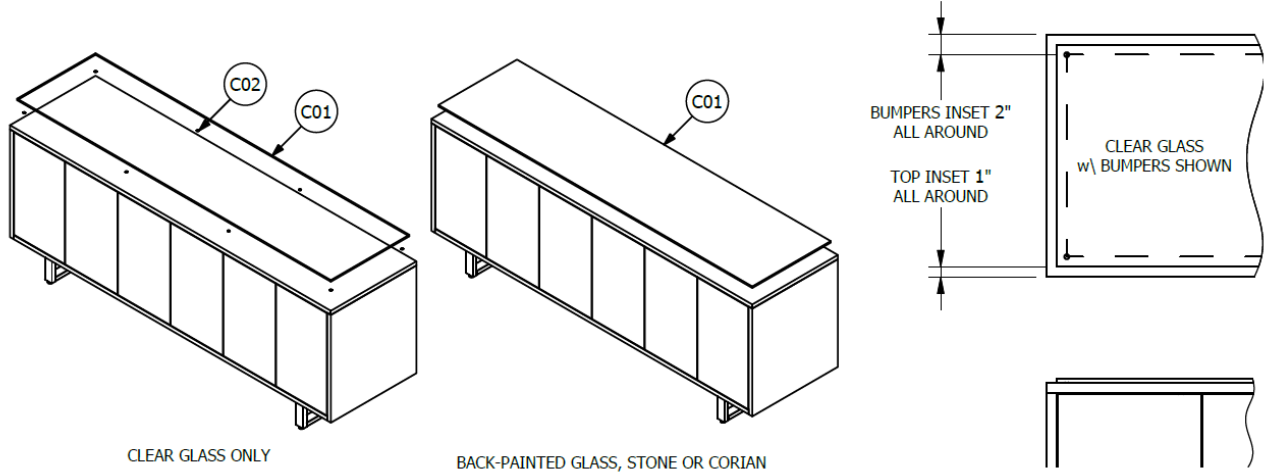

FIG. 04:
1. Peel and stick Bumpers (C02), placing one in each corner of the Credenza inset approximately 2" to the center of the Bumper. Then (Spaced equally) stick the remaining bumpers along the length of the Credenza. See Figure 04.
2. Place Clear Glass Top (C01) on Bumpers, centered on Credenza and inset 1" on all sides. See Figure 04.
1. Using small dabs of Silicone (Y01) around the perimeter, secure Top (C01) centered on Credenza and inset 1" on all sides. See Figure 04.